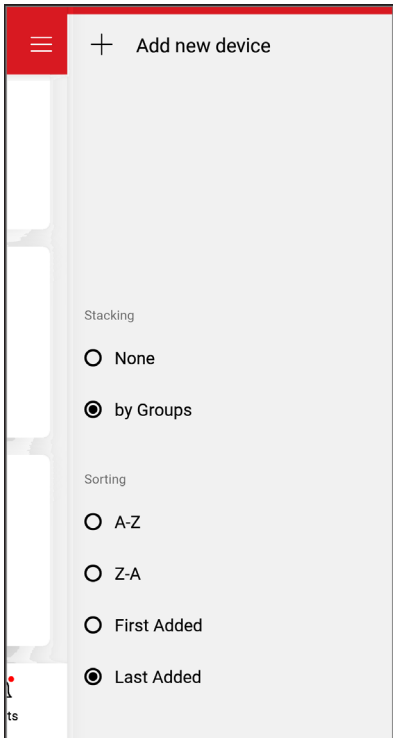

**Figure 80. Wi-Fi Ready to Configure and HOTSPOT Identifier**
- The CONNECT menu should display the Wi-Fi State, indicating "Ready to Config" wireless connection, and also the HOTSPOT identifier. See **Figure 80**.